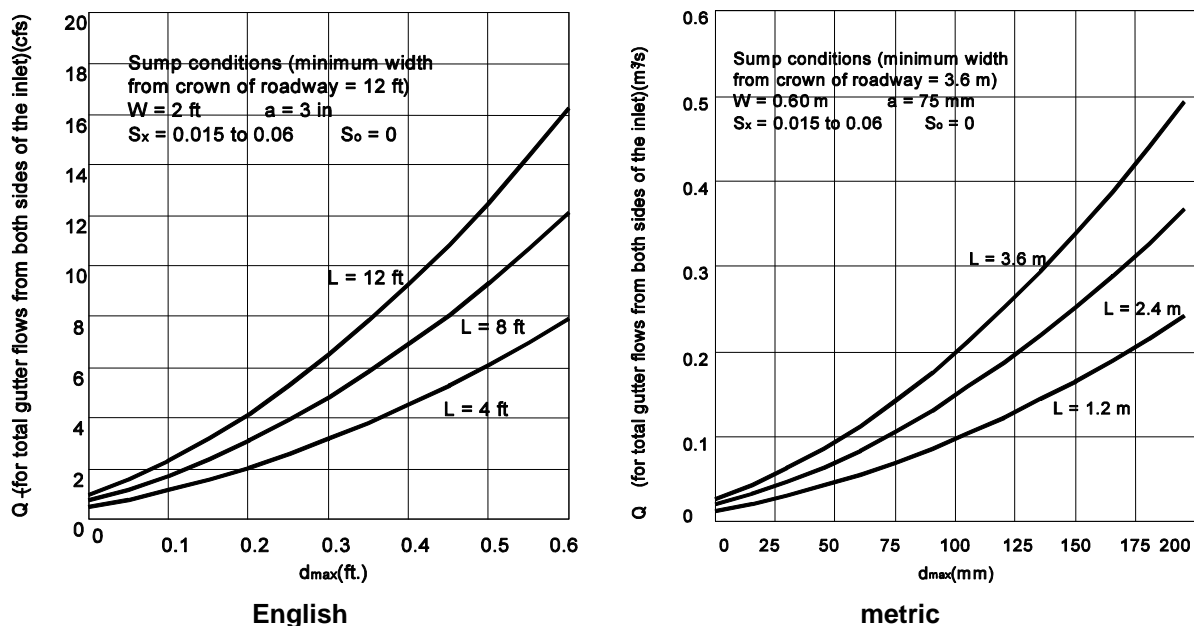
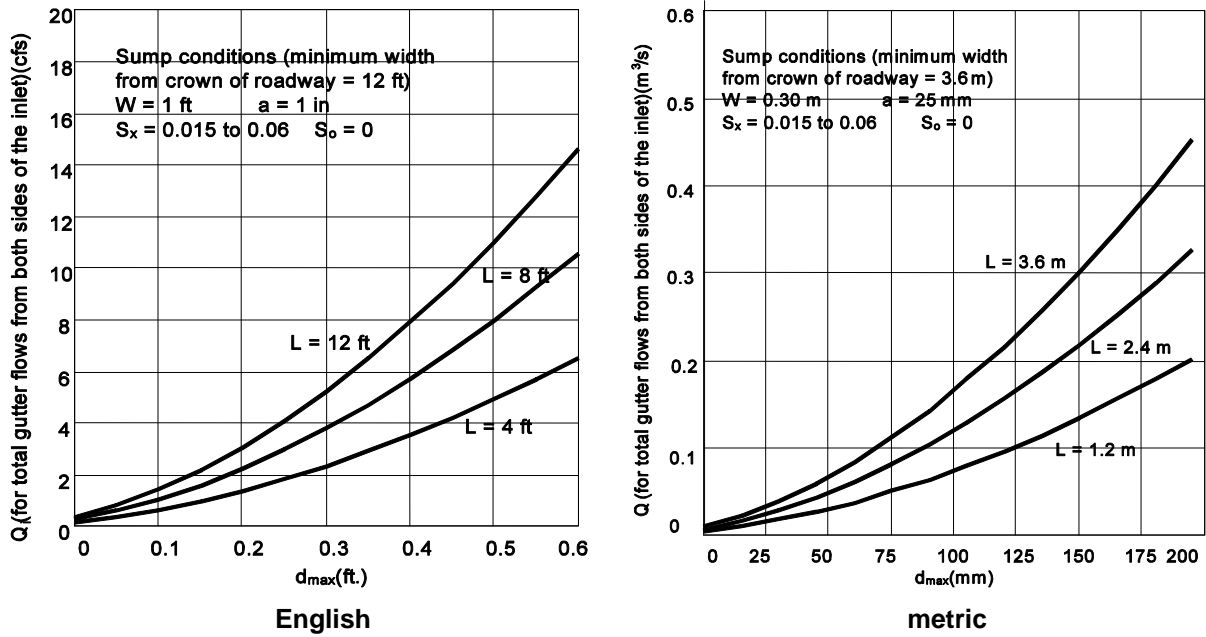

Figure 7: Depth of ponding when intake operates as a weir.³
Figure 8: Depth of ponding when intake operates as a weir.³
Table 2: Adjustments for variations in depression dimensions (to be used with Figures 2, 3, and 4, and with Figures 7, 8, and 9)
Step 2 is to check the ponding of water at the intake due to the limit on the intake's capacity. Figures 7, 8, and 9 are used for this purpose (note that these figures are designed only for when the intake operates as a weir). Normally Figure 7 will be used because it has $W = 2$ feet (0.6 meters) and $a = 3$ inches (75 millimeters); Figures 8 and 9 are only for non-standard intakes. Using the figure appropriate to the intake, find the value of Q (total from both directions) on the left side of the figure. Go horizontally to the appropriate length of opening (L) and then down to read the water depth (d). The spread can then be calculated from $w = (Z)(d)$, where $Z = 1/S_x$. Adjust for values of " a " and W not shown in the figures using Table 2, as with the adjustments for continuous grades. If the intake's opening is different than shown in the figures, interpolate between two curves in the appropriate figure. Note that Q 's from both directions must be added together to get Q_i .